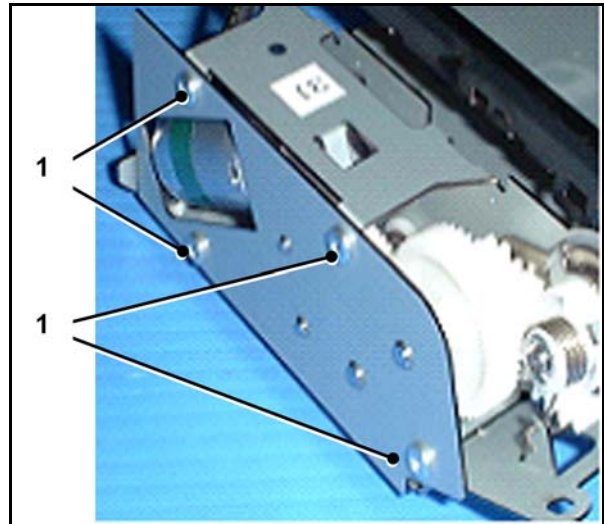

Figure 8
10. Remove the four M2 screws (1) (see Figure 8).